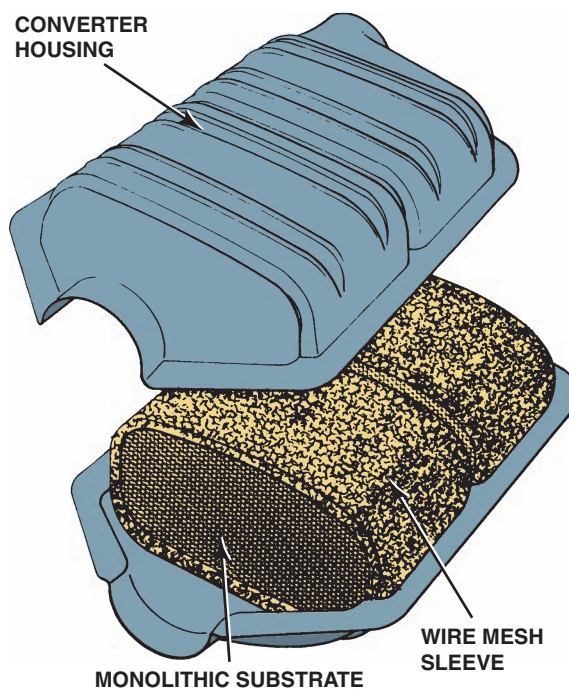

FIGURE 19-23 A typical catalytic converter with a monolithic substrate.
- The catalytic materials are then applied on top of the washcoat. The substrate is contained within a round or oval shell made by welding together two stamped pieces of stainless steel. ● **SEE FIGURE 19-23.**